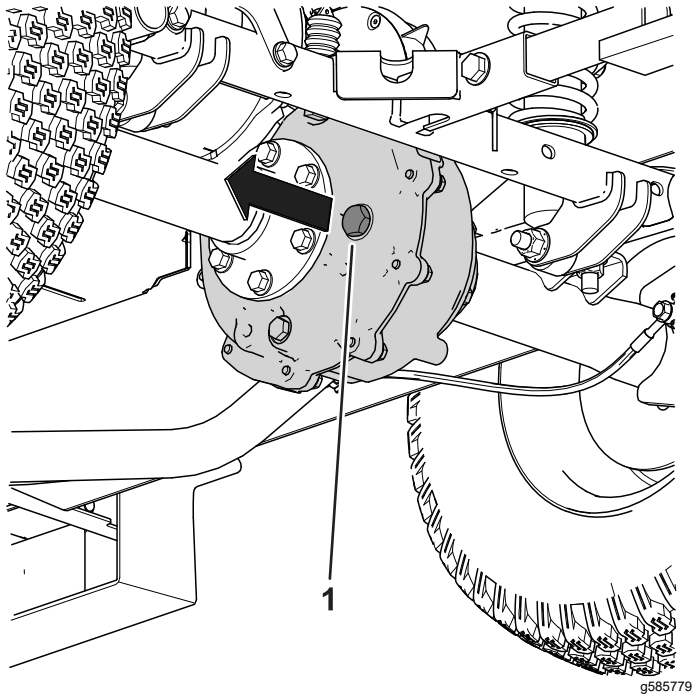

Figure 53
1. Remove the fill plug on the transaxle (Figure 53).
2. If the fluid level is low, remove the fill plug and add the specified fluid indicated in [Changing the Transaxle Fluid \(page 48\)] until it runs out of the hole (Figure 53).